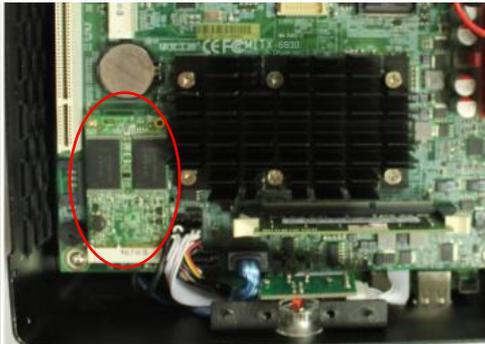

Figure 1: mini-PCie slot on bottom left corner (I/Os facing away from you)
4. On board are two mini-PCie slots. Locate the mini-PCie slot next to the power button and across from the memory slot. (Refer to Figure 1)